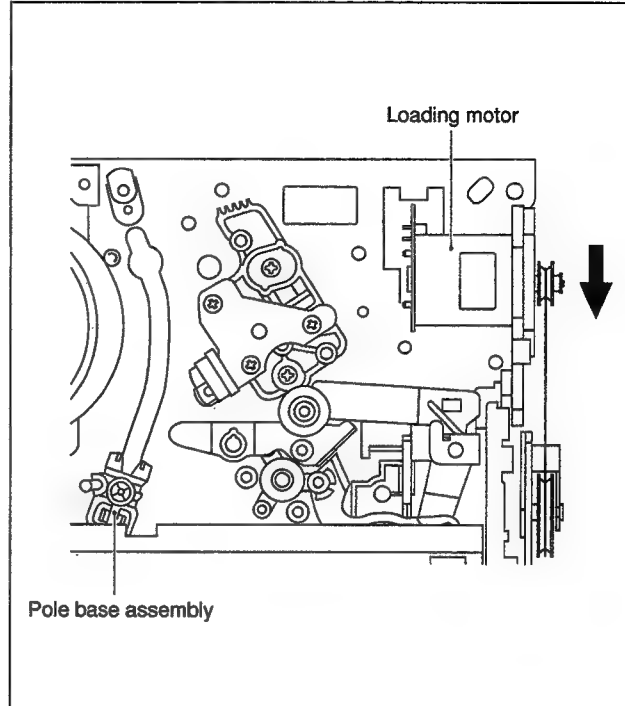
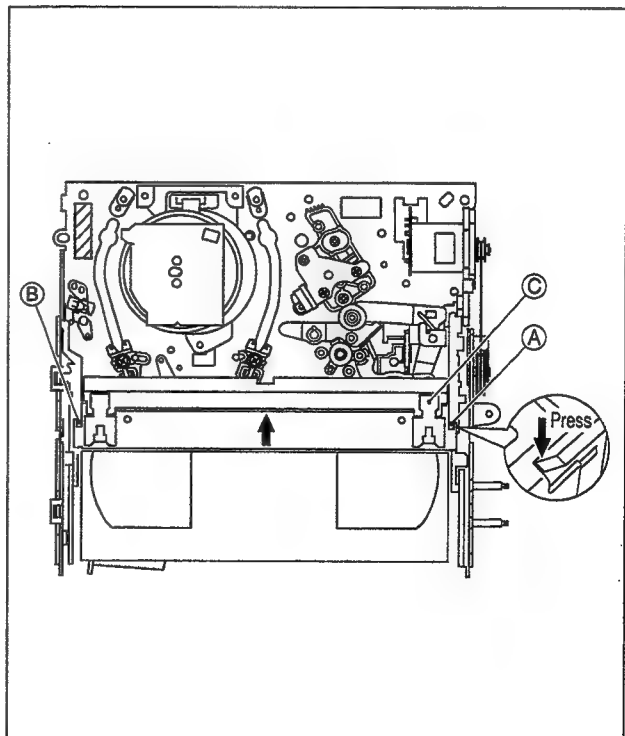

Fig. 2-1-1
Fig. 2-1-2
- (1) Unplug the power cable and remove the top cover, bracket and front panel assembly. (See 1.3 DISASSEMBLY/ASSEMBLY METHOD)
- (2) Unload the cassette by manually turning the unloading motor of the main deck assembly toward the front. In doing so, hold the tape by the hand to keep the slack away from any grease. (See Fig.2-1-1)
- (3) Bring the pole base assembly (on the supply or take-up side) to a pause when it reaches the position where it is hidden behind the cassette tape.
- (4) Move the top plate toward the drum while holding down the lug **A** of the bracket retaining the top plate. Likewise hold part **B** down and remove the top plate. The spring plate **C** is then brought under the cassette lid. Then remove the top plate by pressing the whole cassette tape down. (Note 1) (See Fig.2-1-2).
- (5) Remove the cassette tape by holding both the slackened tape and the cassette lid.
- (6) Take up the slack of the tape into the cassette. This completes removal of the cassette tape.